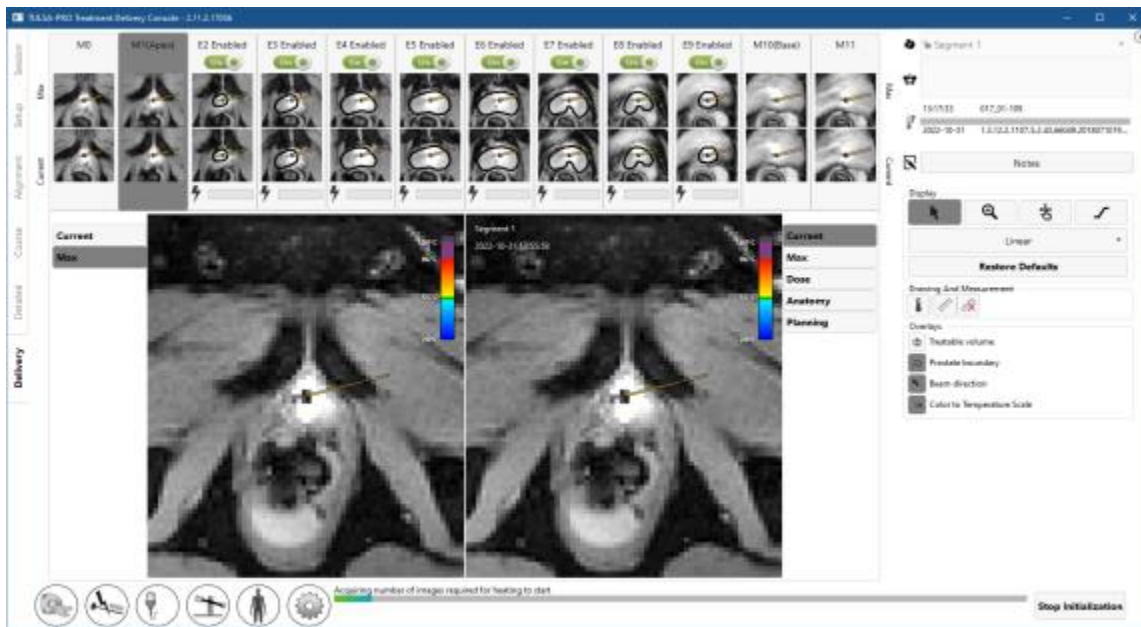

Figure 44: Treatment Initialization state
2. Radiologist: Click **Start treatment** on TDC. It will prompt you to verify the core body temperature using an external temperature measurement device before proceeding (10). Enter the temperature in degrees Celsius and click **Confirm**. The TDC will go into **Treatment Initialization** state and is now ready to receive thermometry images (Figure 44).